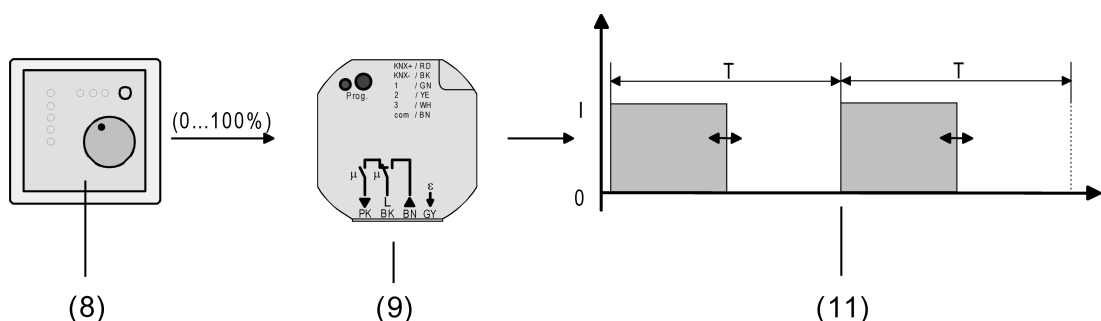

Figure 33: Command value principle for constant command value
- (8) Room temperature controller (command value "1-bit")
- (9) Combi actuator
- (10) Switching output signal for valve drives
In normal operation, the value telegram received via the 1-byte "Command value" object is converted by the device into an equivalent pulse width modulated switching signal at the valve outputs (Figure 33). Taking the cycle time (T) settable in the device into account, the average output signal resulting from this modulation is a measure of the centred valve position of the control valve and thus a reference for the set room temperature (see "Pulse width modulation for constant command values and constant valve setpoint positions").